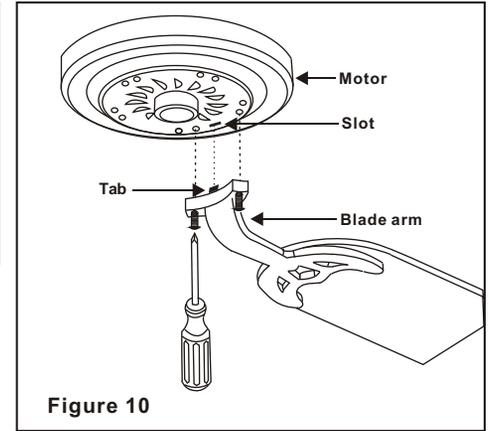

Figure 10
Step 3 Fasten the blade arms to the motor by inserting the tab from the blade arms to the slot in the bottom motor housing, then tighten the two screws and washers already installed in the blade arms. (Figure 10)